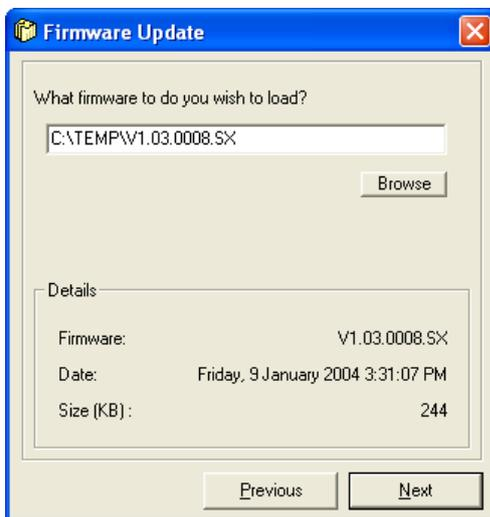

Figure 37 File Window.
6. Verify its details in the Details window as shown in Figure 37